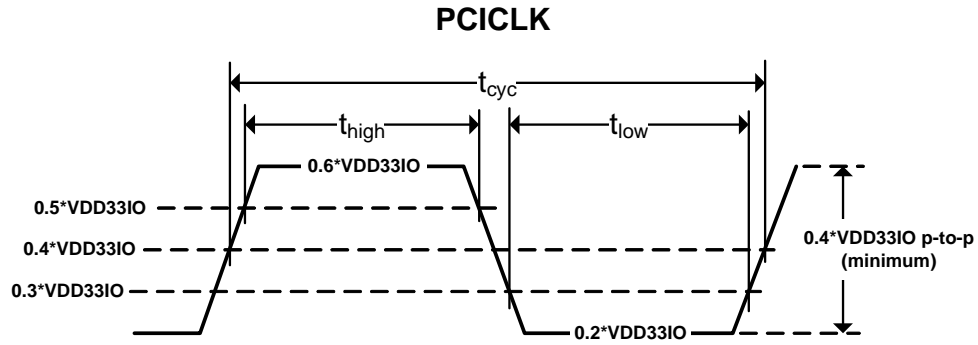

Figure 5.2 PCI Clock Timing
**Note 5.14** This slew rate must be met across the minimum peak-to-peak portion of the clock waveform as shown in Figure 5.2.